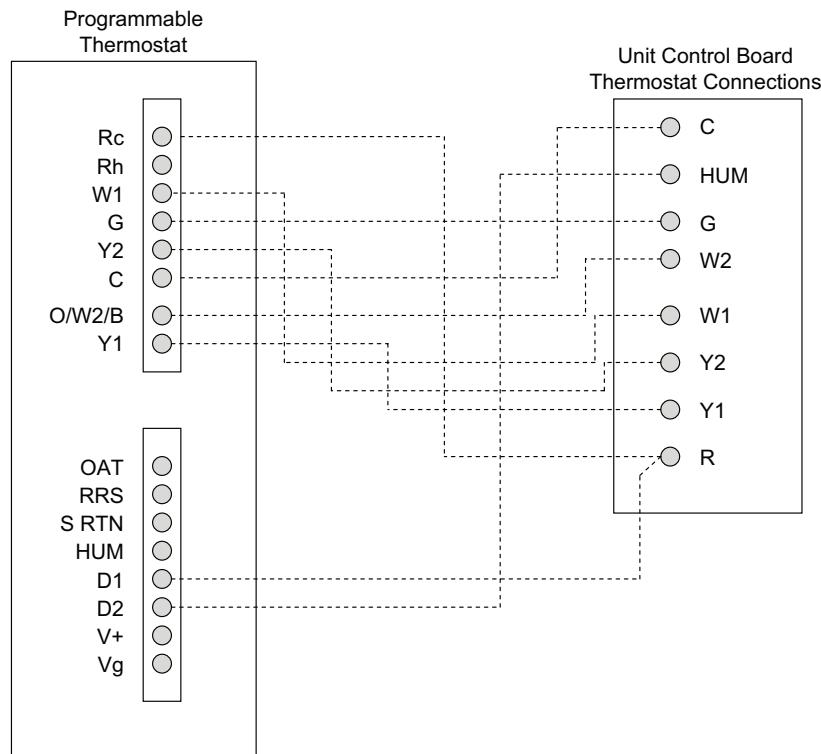

Fig. 56 — 50FC-*20-30 Unit with Humidi-MiZer Adaptive Dehumidification System with Edge® Pro Thermidistat Device
3. The Thermidistat has dry contacts at terminals D1 and D2 for dehumidification operation (see Fig. 56). Connect D1 to